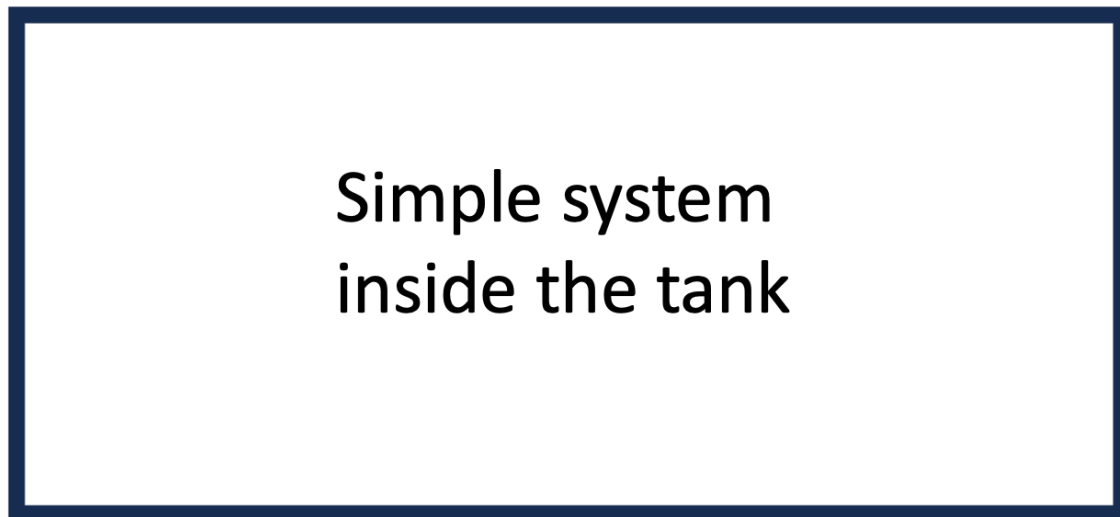

Fig. 2: A simple system.
- Fig. 2 is an example of a simple system